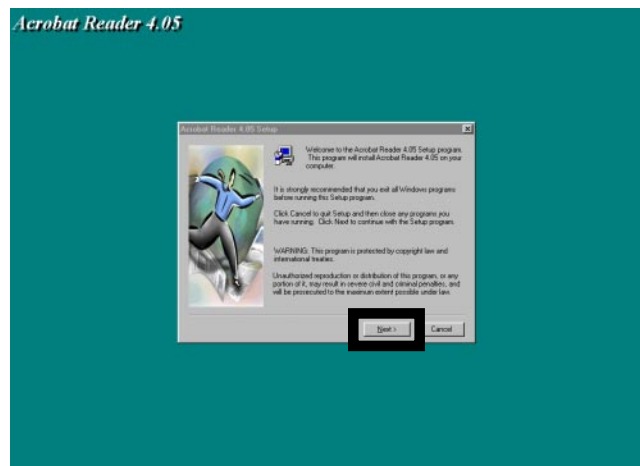

Figure 3-7
5. After re-booting the unit will install Acrobat® Reader. After Acrobat® has been loaded the unit will once again re-boot. (Figure 3-7)